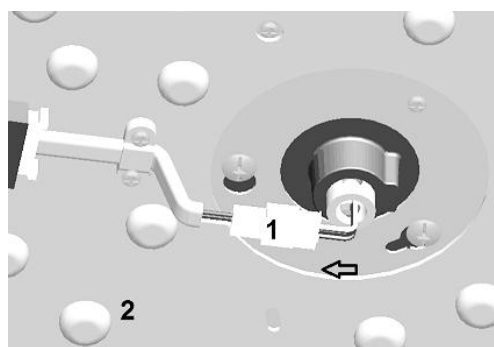

Fig. 7
- Connect the upper plug (1) from the driver to the lower socket (1) in the LED board (2). Fig.7